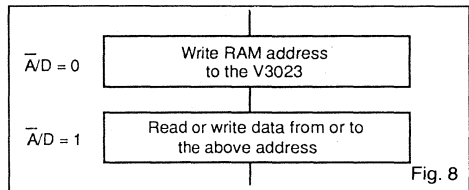

Fig. 8
Data transfer is in 8 bit parallel form. All time data is in packed BCD format with tens data on lines AD 7 - 4 and units on lines AD 3 - 0. To access information within the RAM (see Fig. 7) first write the RAM address, then read or write from or to this location. Fig. 8 shows the two steps needed.
The communication sequence shown in Fig. 8 is re-entrant. When the address is written to the V 3023 (ie. first step of the communication sequence) it is stored in an internal address latch. Software can read the internal address latch at any time by holding the  $\overline{A/D}$  line low during a read from the V 3023. So, for example, an interrupt routine can read the address latch and push it onto a stack, popping it when finished to restore the V 3023. NB. Alarm and timer interrupt routines can reprogram the alarm and timer without it being necessary to read or reprogram the clock.
**Note:** Commands are only valid as commands when the  $\bar{A}/D$  line is low. Writing F2 hex with the  $\bar{A}/D$  line high, as in the last box of Fig. 8, serves only to activate the V 3023 write pin which determines the direction of transfer.